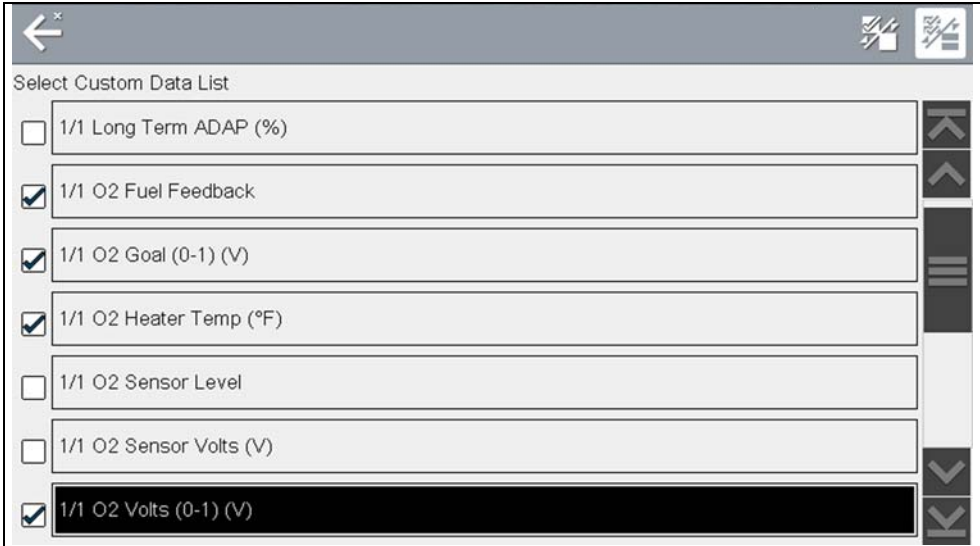

Figure 5-21 Data custom PID selection
- The data selection screen displays (Figure 5-21) and selection icons appear. Check marks to the left of the parameter description indicate which parameters are selected for display.